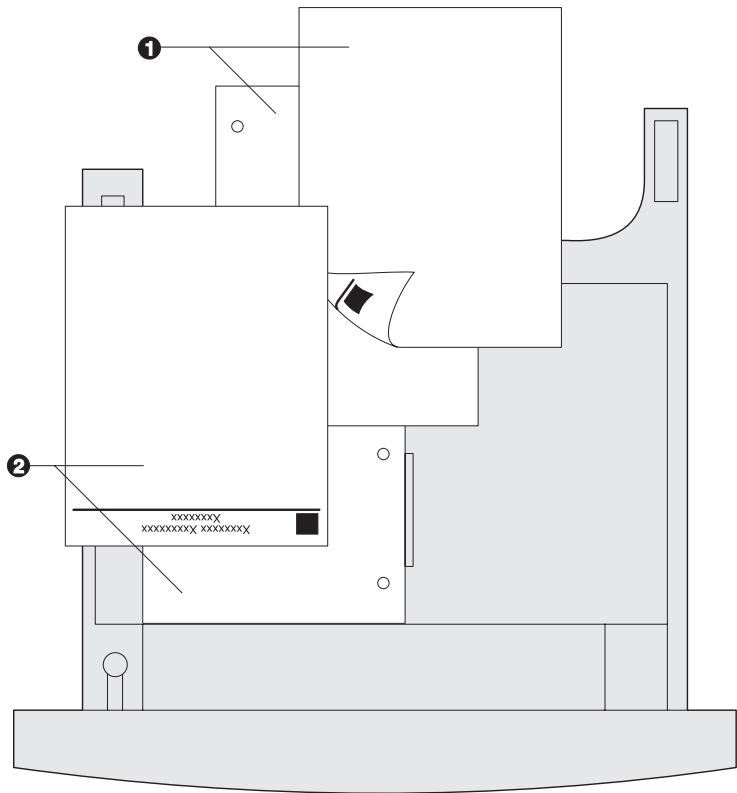

Figure 2.2 Trays 1/2/3 paper orientation (short edge feed)
- 5 Place the paper in the tray, between the guides (see Figure 2.1 on page 2-12 and Figure 2.2 on page 2-13 for orientation).